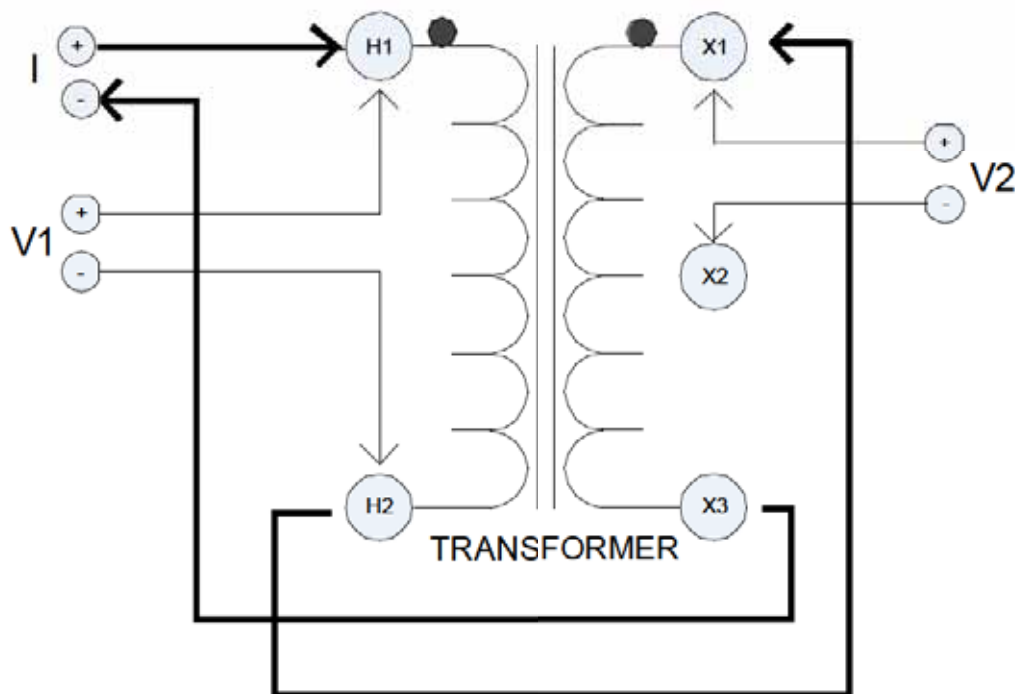

Figure 3: Dual-Winding Test
NOTES: It should be carefully noted that the jumper in Figure 3 be connected to opposite polarities of transformer to reduce transformer core saturation time.
4. Connect "V1" voltage leads input to H1 and H2 terminals of test transformer. See Figure 3.
5. Connect "V2" voltage leads input to X1 and X2 terminals of test transformer. See Figure 3.
Connect current leads (I) to test specimen winding. See Figure 3. Add the Jumper Cable from H2 to X1. This will allow current to flow from the primary winding to the secondary winding.
Voltage leads should always be placed inside (between) current leads and the transformer. See Figure 3.